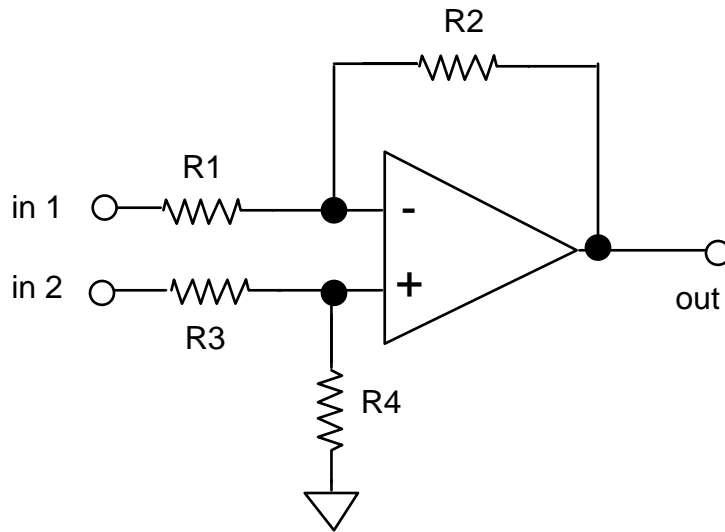

Figure 7-6 Differential Amplifier
- ☛ The circuit in Figure 7-6 is a differential amplifier.
- Connect the circuit in Figure 7-6, using resistor values  $R_1 = R_2 = R_3 = R_4 = 10 \text{ k}$ .